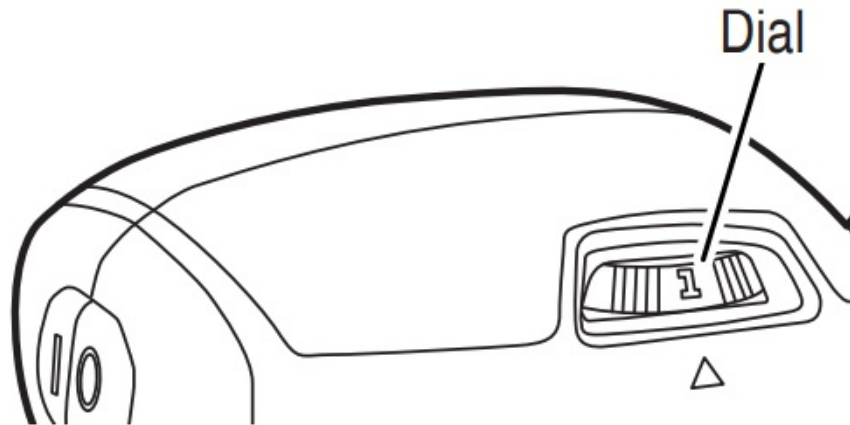

Fig. 9
5. Adjustment of speed The sander is equipped with an electric control circuit that enables speed control. To adjust the speed, turn the dial shown in Fig. 9. When the dial is set to “1”, the sander operates at the minimum speed (7,000 /min).